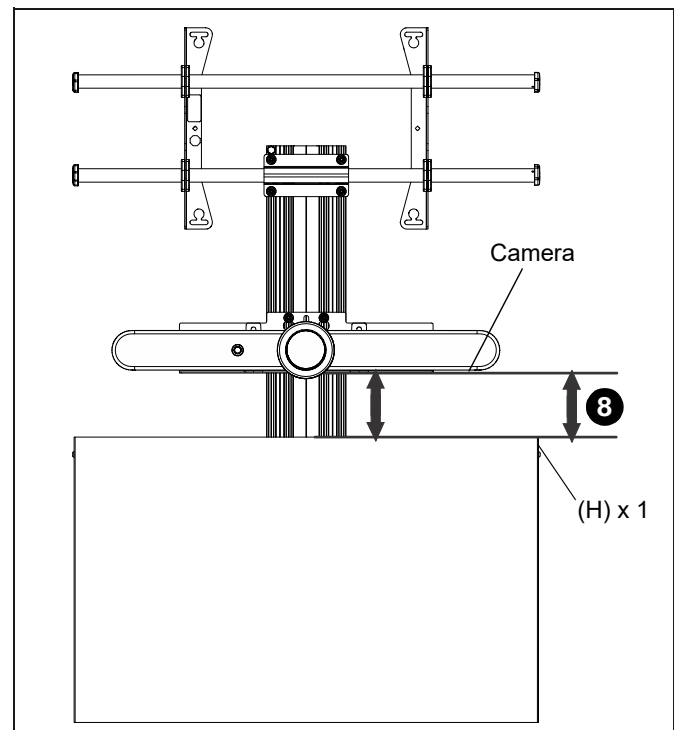

Figure 20
8. Measure the distance between the top edge of the storage box (H) and the lower edge of the camera. (See Figure 20)